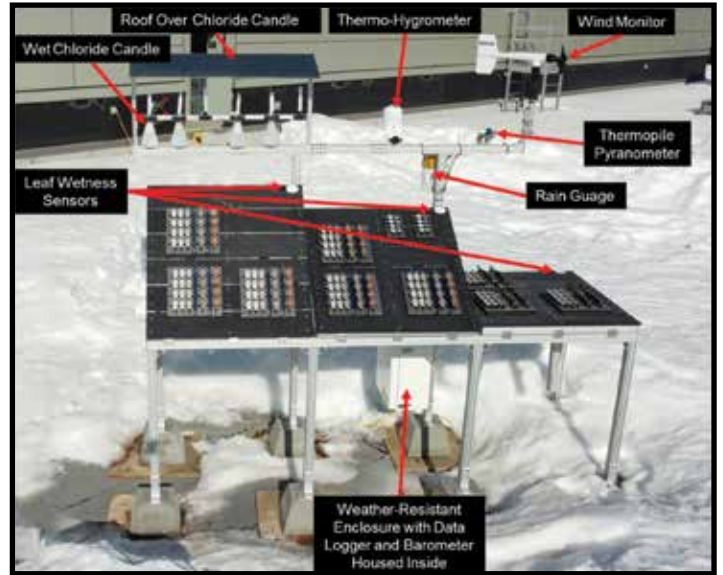

Figure 2: Multi-Angle Corrosion Rack with Auxiliary Weather Station.
Atmospheric corrosion standards recommend an exposure angle of 30 degrees from the horizontal, facing south, and the lowest specimens be at least 30 inches above the ground. Time of wetness is one of the main parameters for atmospheric corrosion testing and can vary drastically depending on the angle of the exposed surface. This modular and adjustable corrosion test rack allows us to change the direction of exposure (north, south, east, or west) and the angle of exposure (0, 30, or 45 degrees to horizontal). These changes can be made easily and will save time when future adjustments are required for different exposure angles and directions. Lastly, this design can support a full weather monitoring system (Figure 2). These parameters include, but are not limited to, relative humidity (RH), ambient air temperature, TOW, rainfall, wind velocity, UV radiation, barometric pressure, and aerosol chloride and sulfate deposition.